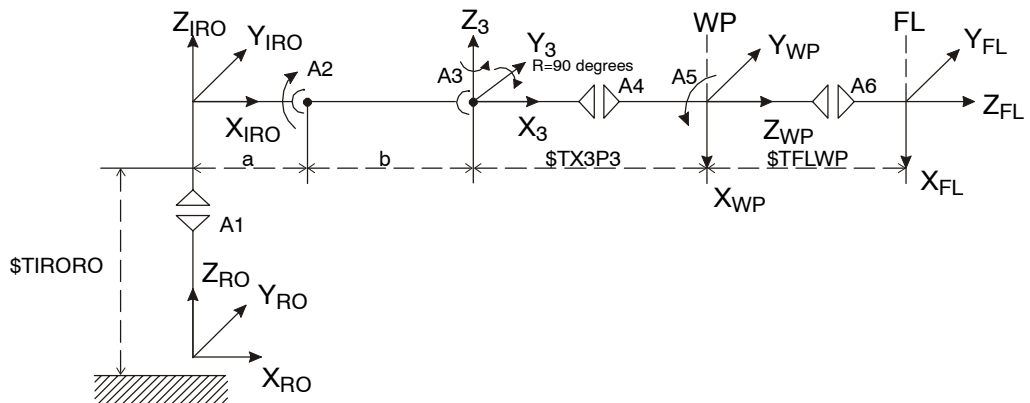

Fig. 18 TIRORO
(See Fig. 18.) Link frame between the last wrist coordinate system (WP) and the externally visible flange system (FL) (representation of FL system in the WP system).